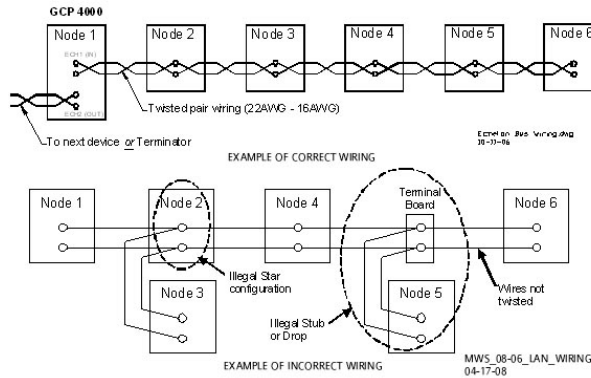

Figure 14: Echelon LAN Wiring Examples
- Each connection (node) must be wired in a daisy-chained bus configuration, no drops allowed (see Figure 14).
- A maximum of 8 connections (nodes) is recommended within 53 ft. (15.2 m) of cable. If necessary additional cable may be added so that no more than 8 nodes are located within any 53 ft./15.2 m length (see Figure 14). If additional connections are required, contact Siemens Mobility, Inc. Technical Support for assistance.